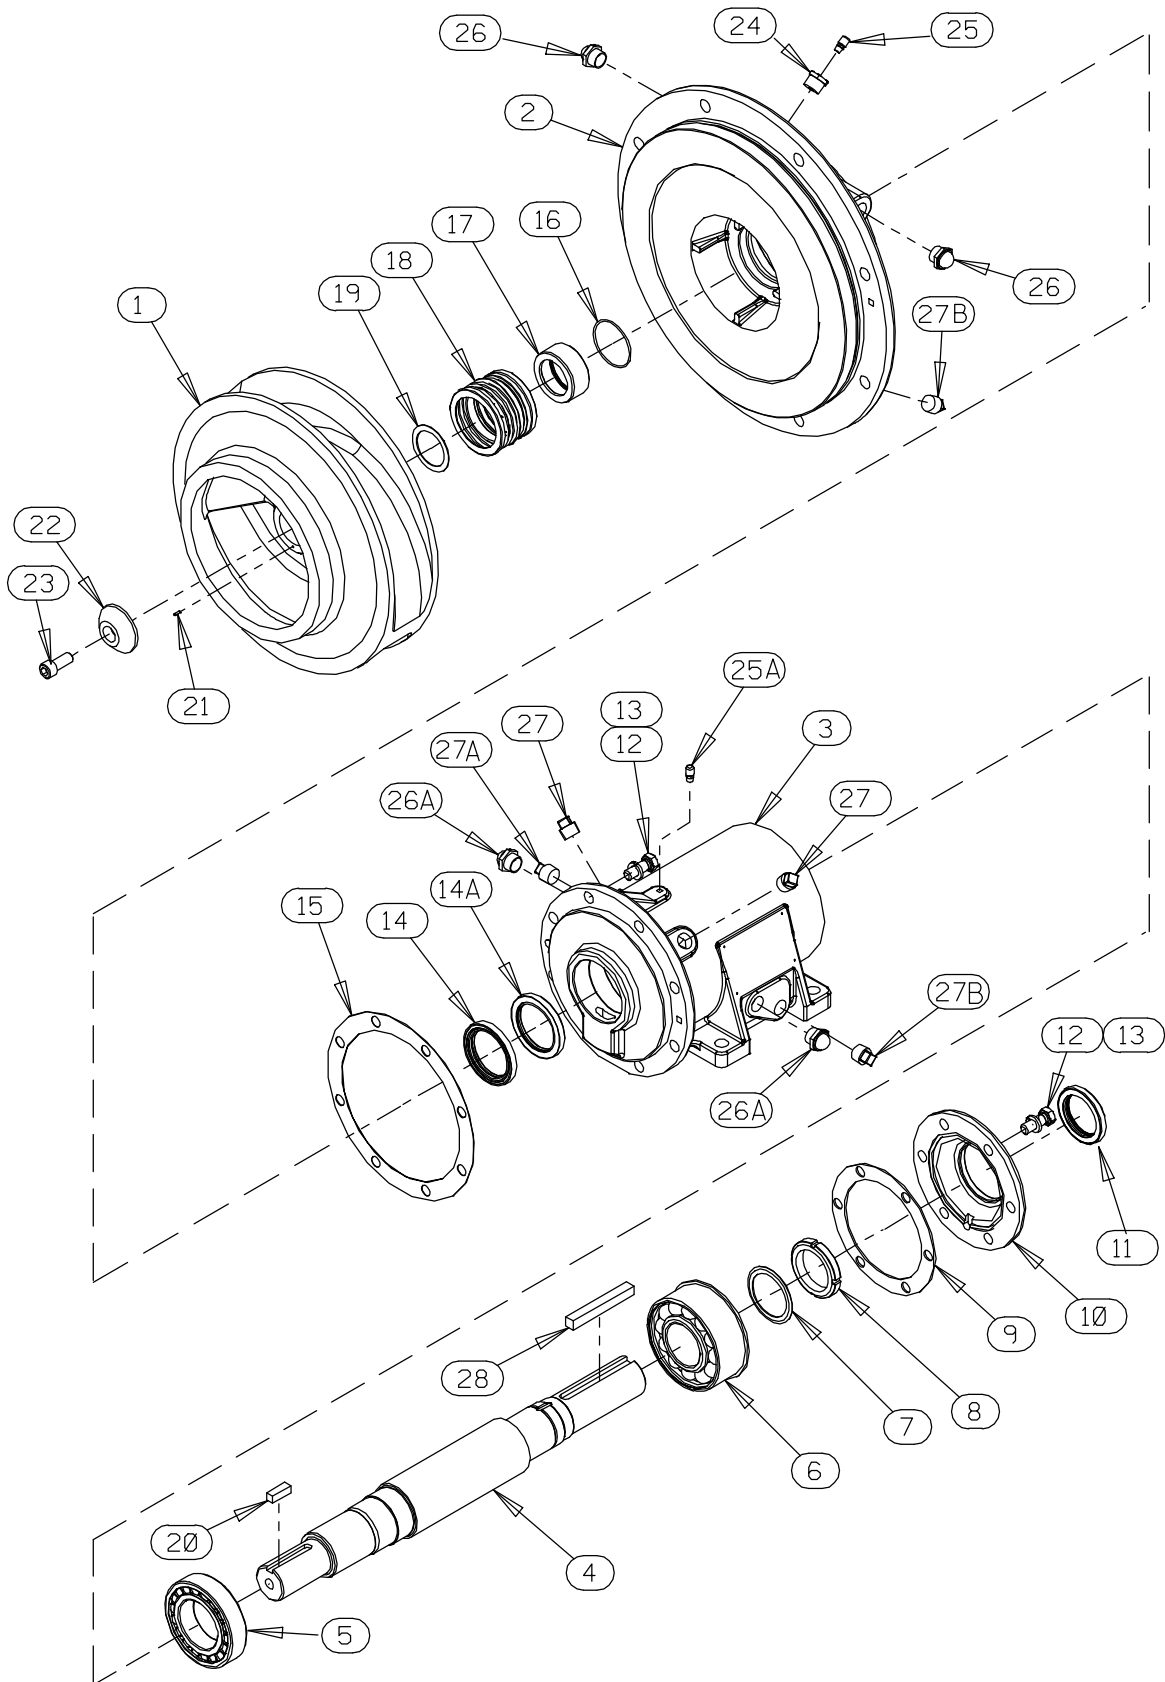

Figure 2. Repair Rotating Assembly
### (Figure 2)
Further disassembly requires separating the rotating assembly from the power source. Remove the coupling securing the rotating assembly to the power source and remove the key (28, Figure 2).
(Figure 2)